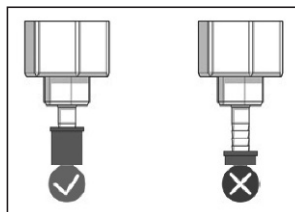

Fig. 5
2. Attach the oxygen input connector/s A and B to the flowmeter/s (see FIGURE 5). Check proper connection before activating the gas supply.